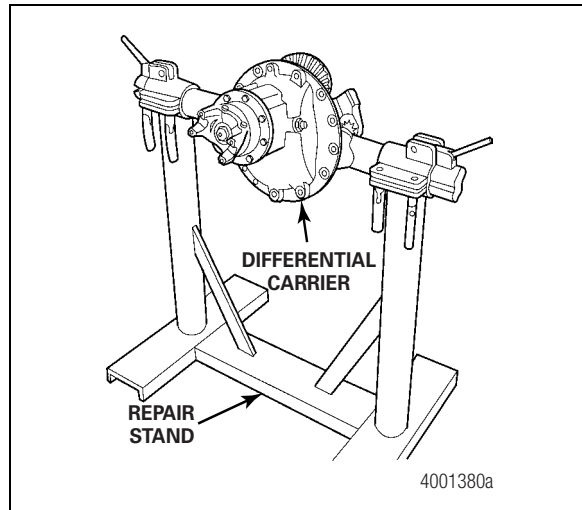

Figure 3.4
16. Use a lifting tool to lift the differential carrier by the input yoke or the flange and place the assembly into a carrier repair stand. Figure 3.4.